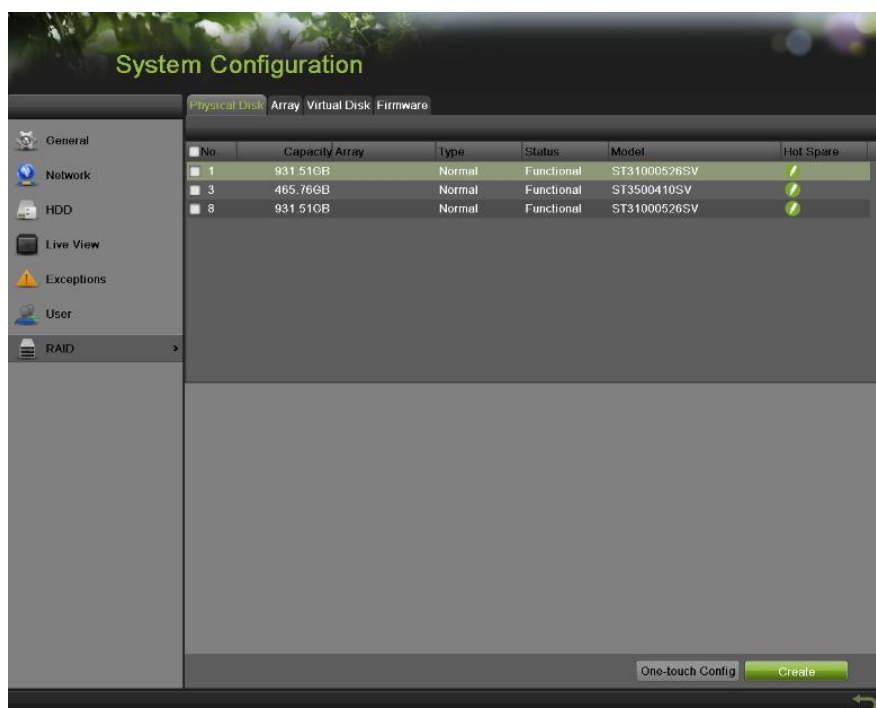

Figure 103 Physical Disk Settings Menu
1. Enter the Physical Disk interface by going to Menu > System Configuration > RAID > Physical Disk, as shown in Figure 103.